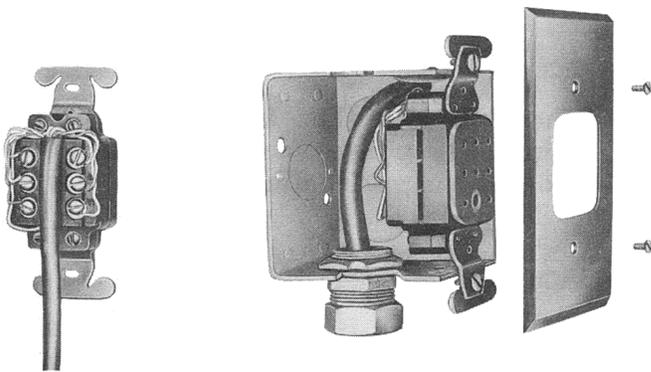

Fig. 9 — 391A Jack Unmounted and 391A Jack Mounted in Outlet Box
**2.09** The 391A jack (Fig. 9) is an 8-contact, flush-type jack intended for use with an electrical outlet-type box. Mounting hardware